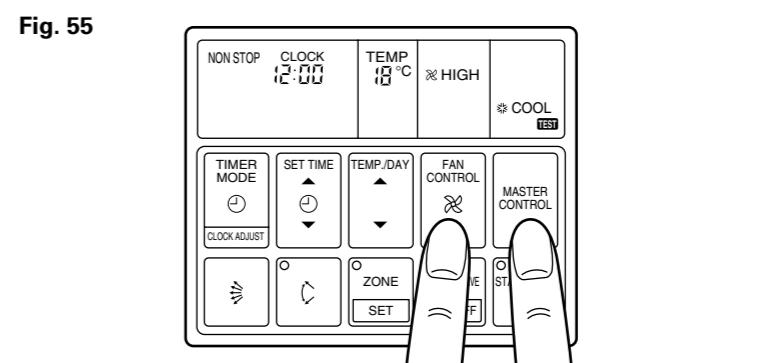

Fig. 55
- However, the SET TEMP./DAY setting button does not function, but all other buttons, displays, and protection functions operate (Fig. 55).